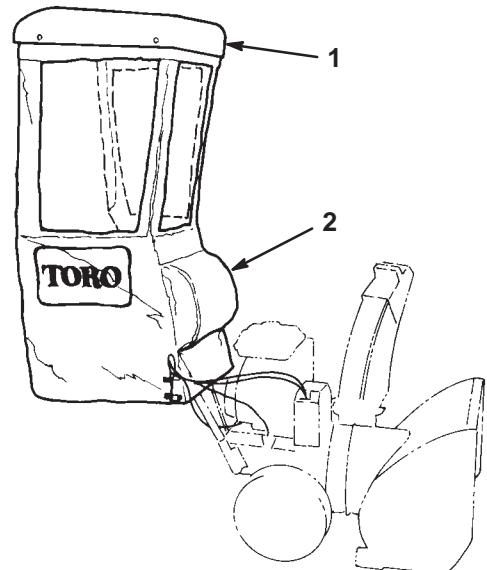

**Figure 7**
10. Mount the top frame to the rear vertical bow and to the upper ends of the front posts with (4) 1/4-20 x 3/4" lg. capscrews (capscrew heads inside the cab) and locknuts (Fig. 7).